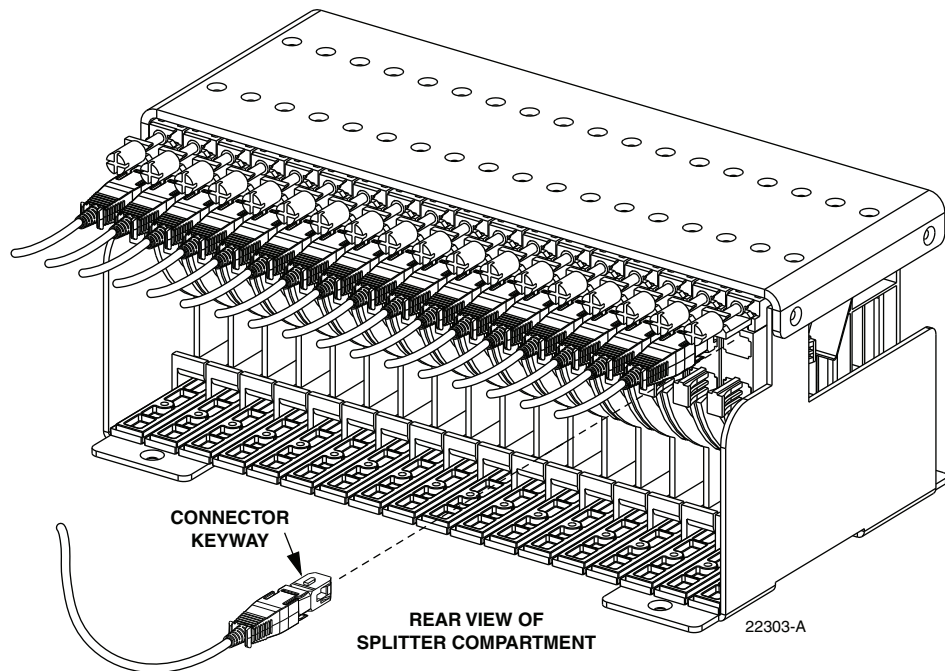

Figure 59. Feeder Cable Connector
9. Insert the feeder fiber connector into the appropriate bulkhead adapter (remove dust cap from adapter) at the rear of the splitter compartment as shown in Figure 59.